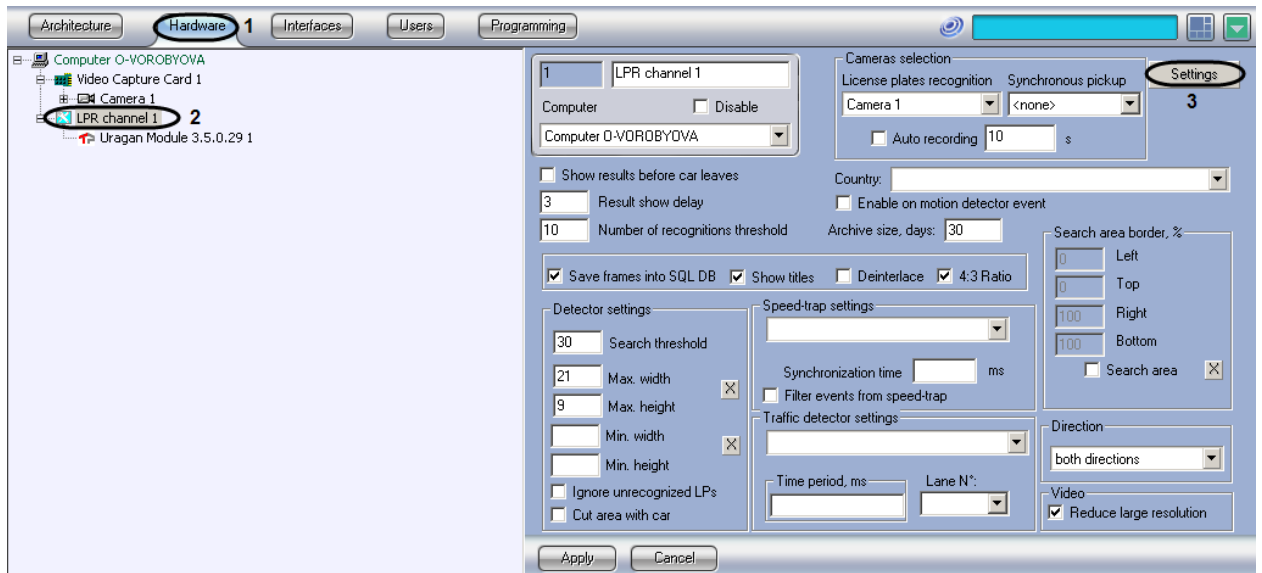

Fig. 7.2—10 Access to frame sign parameters
2. Select the LPR channel, corresponding to the activated Auto-Uragan 3.5.0.29 module, in the objects tree on the Hardware tab (see. «Program module activation, used for Plates identification»). The settings panel of the selected object will open on the right side of the window Fig. 7.2—10, 2).
3. Click Settings button (Fig. 7.2—10, 3).